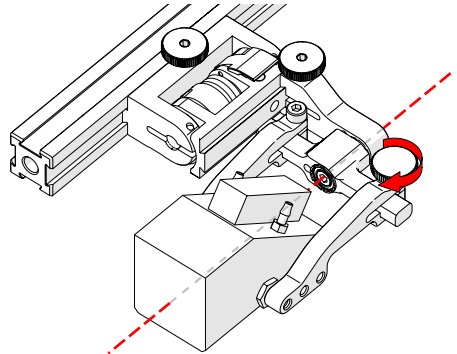

Fig. 152 - Pinch wedge with arm
9. Tighten the probe holder arm adjustment knob (Fig. 152).